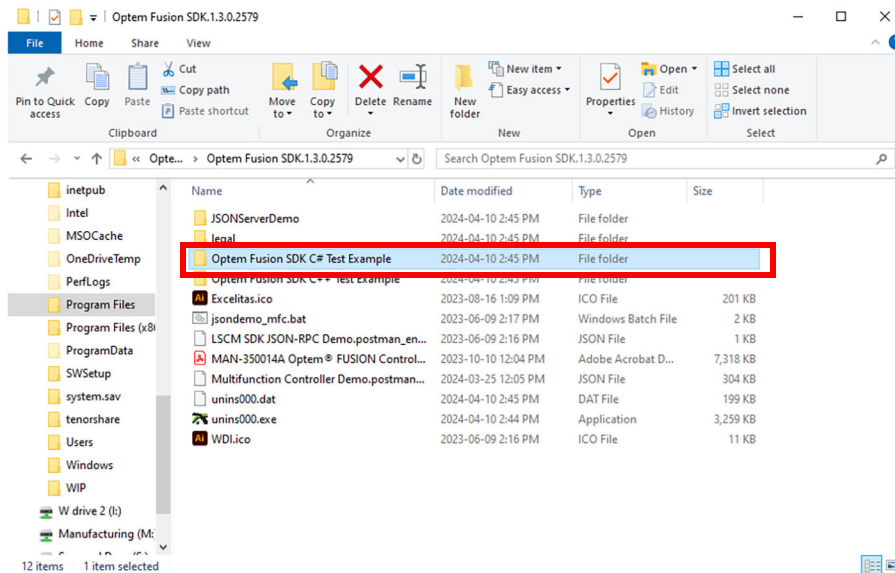

Figure 50 C# Test Example Folder Location
1. Locate the C# test example folder (outlined in red in Figure 50), in the **C:\Program Files\WdiDevice\Optem Fusion\Optem Fusion SDK.x.x.x.xxxx** folder.